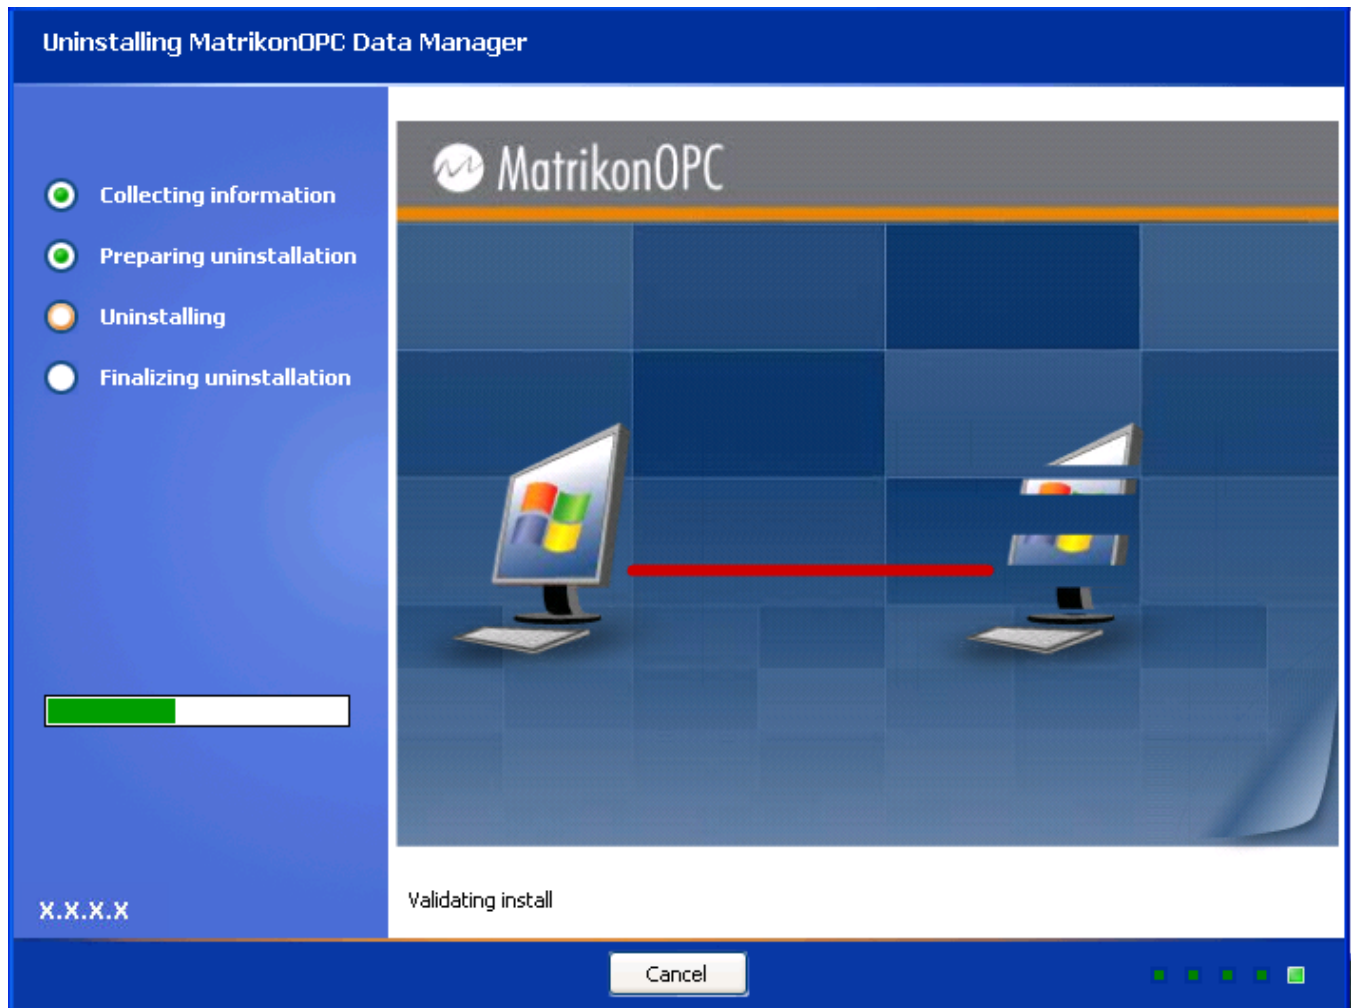

Figure 69 - Uninstalling MatrikonOPC Data Manager Screen
11. The **Uninstalling MatrikonOPC Data Manager** screen (Figure 69) appears and the uninstall takes place.